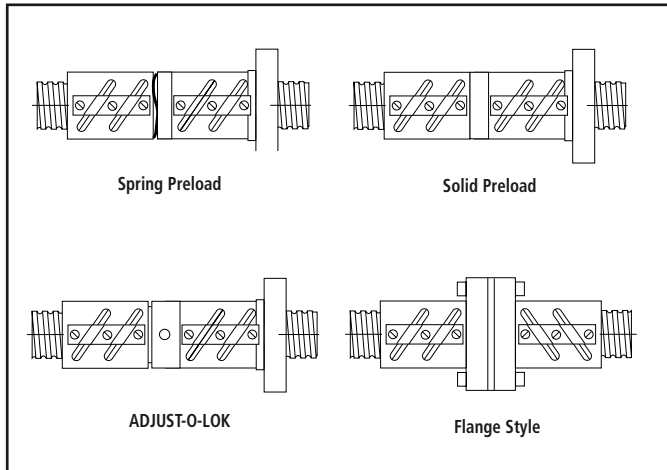

Figure 10
Precision ball screws are generally preloaded in any one of the four configurations shown in Figure 10.
Preload adjustment of a Precision ball screw (Figure 10) requires no disassembly. Possible removal of the ball nut from the machine housing may be necessary to expose the adjusting nut.
**Preload Adjustment:** The adjusting nut unit in Figure 10 can be adjusted to the desired preload with the use of additional shims. To make further adjustment, loosen the set screw located on the periphery of the lock nut. Use a spanner wrench to rotate the adjusting nut to the desired setting. Recheck the preload.
For all other standard units in Figure 10, a shim increase of .001 in. will, as a general rule, increase preload by 500 to 1,000 lb. This varies depending upon screw size; therefore, some judgement and trial and error may be necessary before the desired preload is achieved.